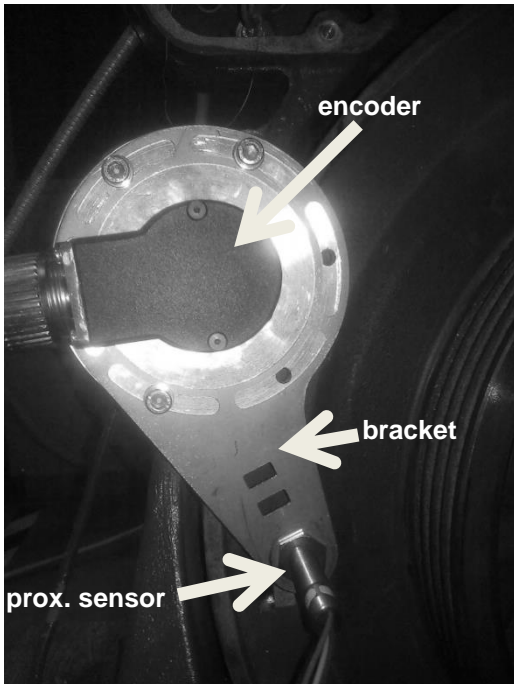

Figure 6: Picture of encoder, proximity sensor, and sensor bracket (PN 43T02814-0030)
3. The sensor bracket and encoder should be loosely mounted on the motor with socket head cap screws with washers as shown in Figure 6. NOTE: there should be a pre-made encoder mount on the motor frame to mount the rider wheel and encoder. Make sure that the rubber on the rider wheel is making good physical contact on the rotor so that the wheel rotates with the rotor.